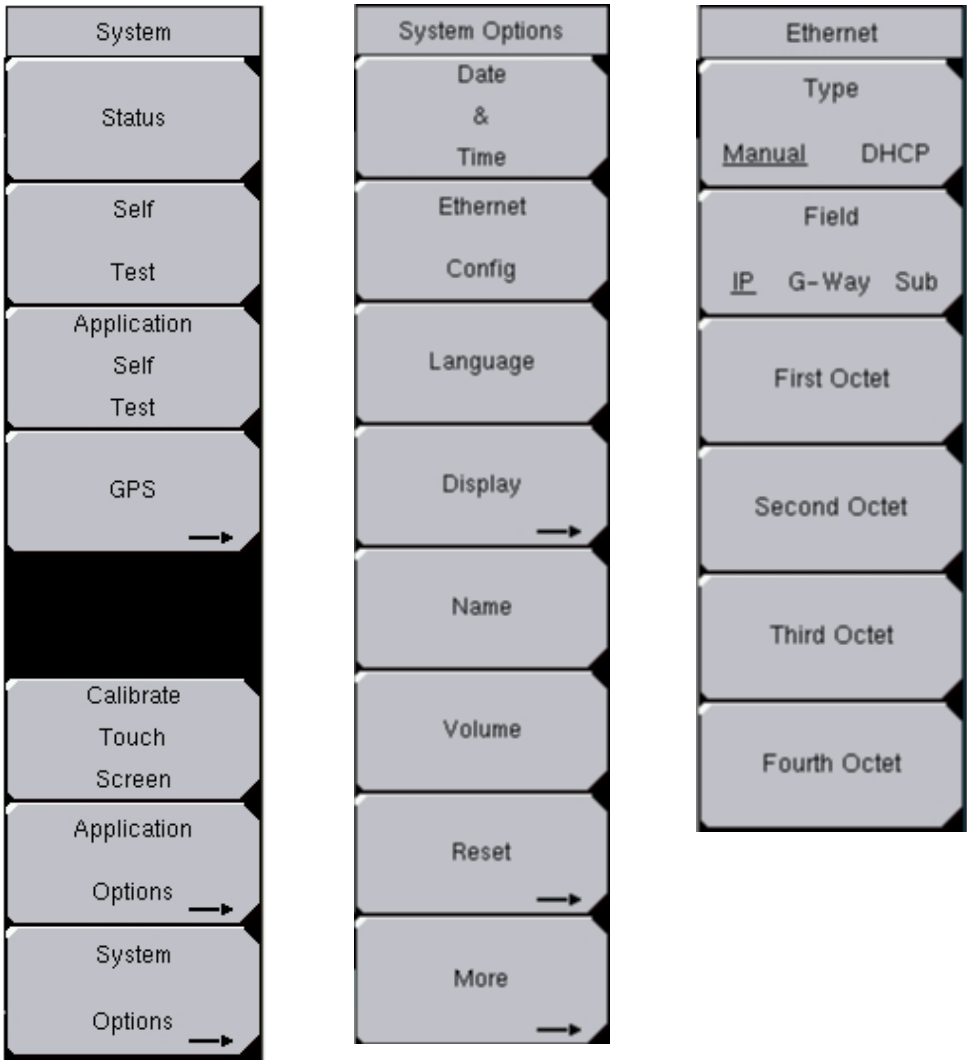

Figure 2-22. BTS Master Instrument System, System Options, Ethernet Menus
- 1. On the test instrument, press the **Shift** key, then the **System [8]** key. The test instrument’s System menu displays, see Figure 2-22 (left).
- Press the System Options soft key, see Figure 2-22 (left), then the Ethernet Config soft key, see Figure 2-22 (middle). The Ethernet Editor displays and the Ethernet menu, see Figure 2-22 (right) displays along the right side of the instrument display.